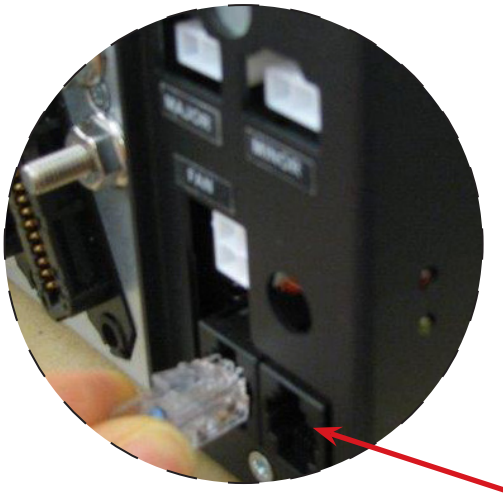

Figure 21 — CAN OUT terminator
2. Insert the CAN terminator (P/N 5450228-001) in the last CAN OUT location. See Figure 21.